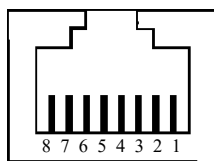

Figure 6 RJ45 Port
- Pins of the 10/100Base-T(X) RJ45 port
Figure 6 shows the pin numbers of the 10/100Base-T(X) RJ45 port.